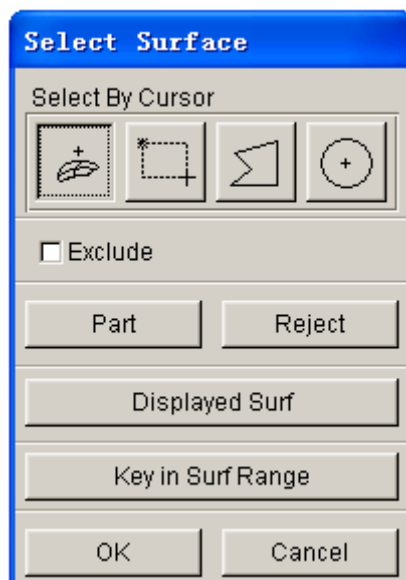

Figure 4.4.7 Select Surface dialog box
- Click on the SURFACE(S) button to open SELECT SURFACE dialog box as illustrated in Figure 4.4.7.